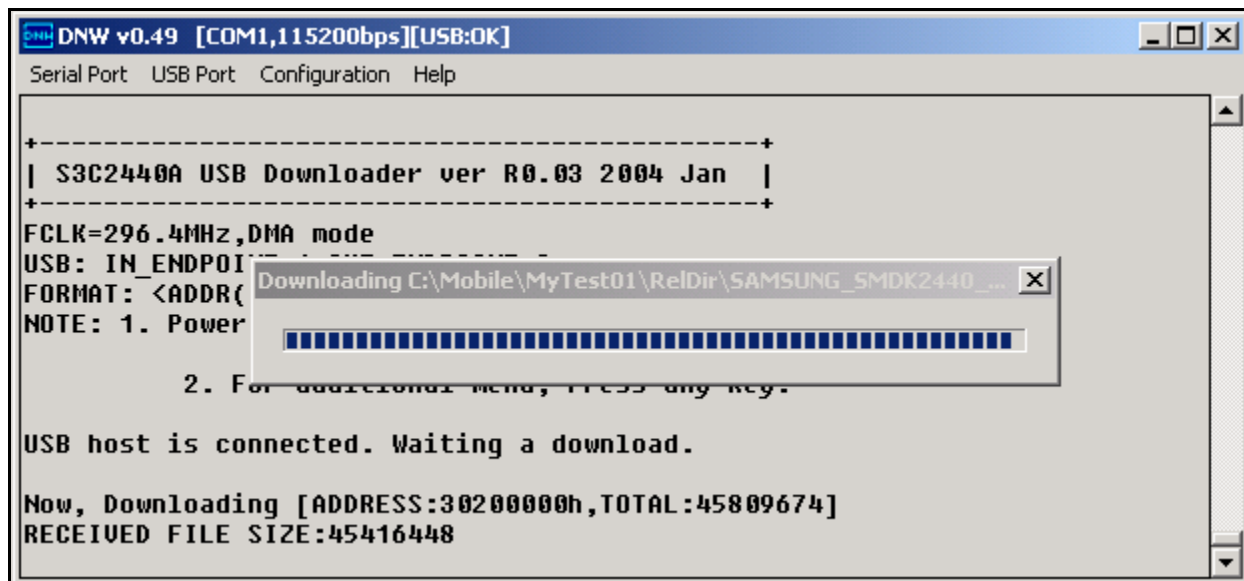

Figure 5-7 Downloading Status of NK.nb0
9. Once the download process begins, a download status bar will appear on your screen as shown below in the figure 5-7.